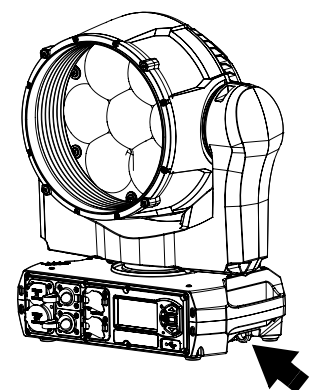

Figure 7: Safety cable attachment points
1. See Figure 7. Install a safety cable that is approved as a safety attachment for the weight of the fixture by looping it through one of the two safety cable attachment points (arrowed, one on each side of the fixture) in the bottom of the base and around a secure anchoring point so that the safety cable will catch the fixture if a primary attachment fails. Remove as much slack as possible from the safety cable (by looping it more than once around the truss, for example).